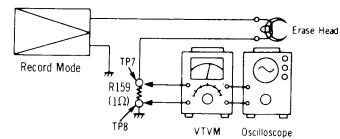

Fig. 19
| I Erase current Condition: * Record mode * Bias adjustment control ... Center Equipment: * VTVM * Oscilloscope | 1. Test equipment connection is shown in fig. 19. 2. Place UNIT into record mode and measure voltage at test point 7. 3. Determine erase current with the following formula. $\text{Erase current (A)} = \frac{\text{Voltage across both ends of R159}}{1 (\Omega)}$ <div style="border: 1px solid black; padding: 5px; text-align: center;"> Standard value: $95 \pm 5 \text{ mA}$ (Tape selector ... Metal) </div> 4. If measured value is not within standard, adjust VR803. |